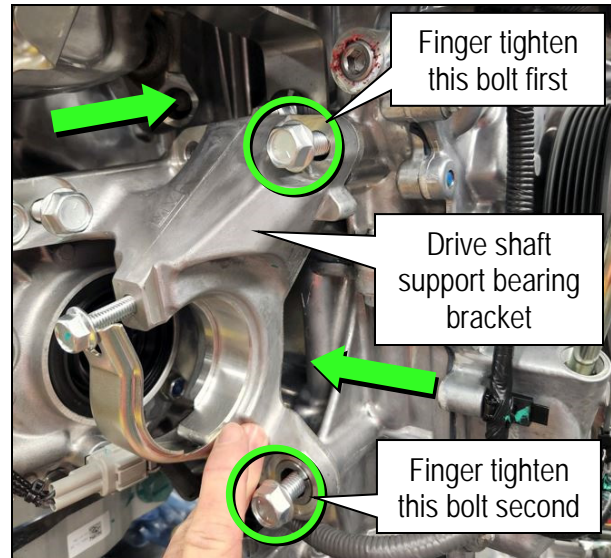

Figure 8
1. Place and hold the drive shaft support bearing bracket into position, ensuring it is flat against the engine block and flat against the transfer assembly, and loosely install the bolts (Figure 8).